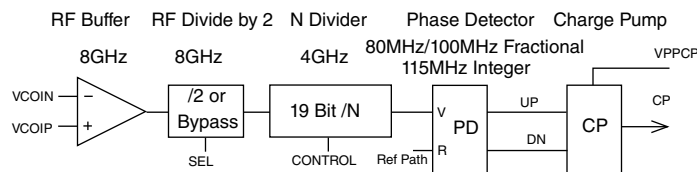

Figure 28. RF Path
The RF path is shown in Figure 28. This path features a low noise 8 GHz RF input buffer followed by an 8GHz RF divide-by-2 with a selectable bypass. If the VCO input is below 4 GHz the RF divide-by-2 should be by-passed for reduced power consumption and improved performance in fractional mode. The RF divide-by-2 is followed by the N divider, a 19 bit divider that can operate in either integer or fractional mode with up to 4 GHz inputs. Finally the N divider is followed by the Phase Detector (PD), which has two inputs, the RF path from the VCO (V) and the reference path (R) from the crystal. The PD can operate at speeds up to 80 MHz in fractional Mode A, 100 MHz in fractional Mode B and 115 MHz in integer mode.